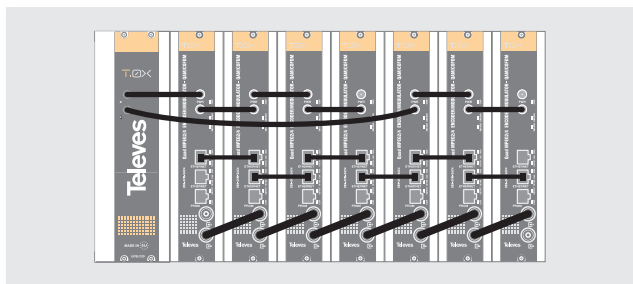

Figure 1
1. Install all units in the rack and connect them as shown in Figure 1.